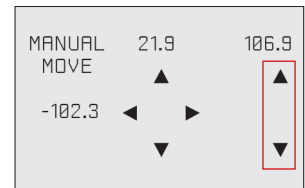

Fig. 21
4. Move the Print Pad all the way down to install the Jet Wiper. (Fig. 21)